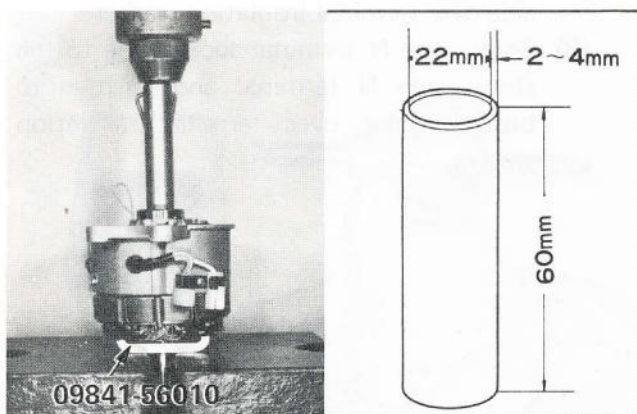

Fig. 6-89 Installing Rotor Assembly
- (1) Hold the rotor with SST [09841-56010] and using the tool illustrated in Fig. 6-89, at the bearing side, press the end frame on to rotor.